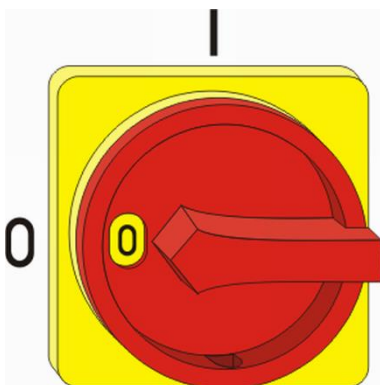

Fig. 47: Main switch
1. Turn the main switch to the "0" position (Fig. 47).